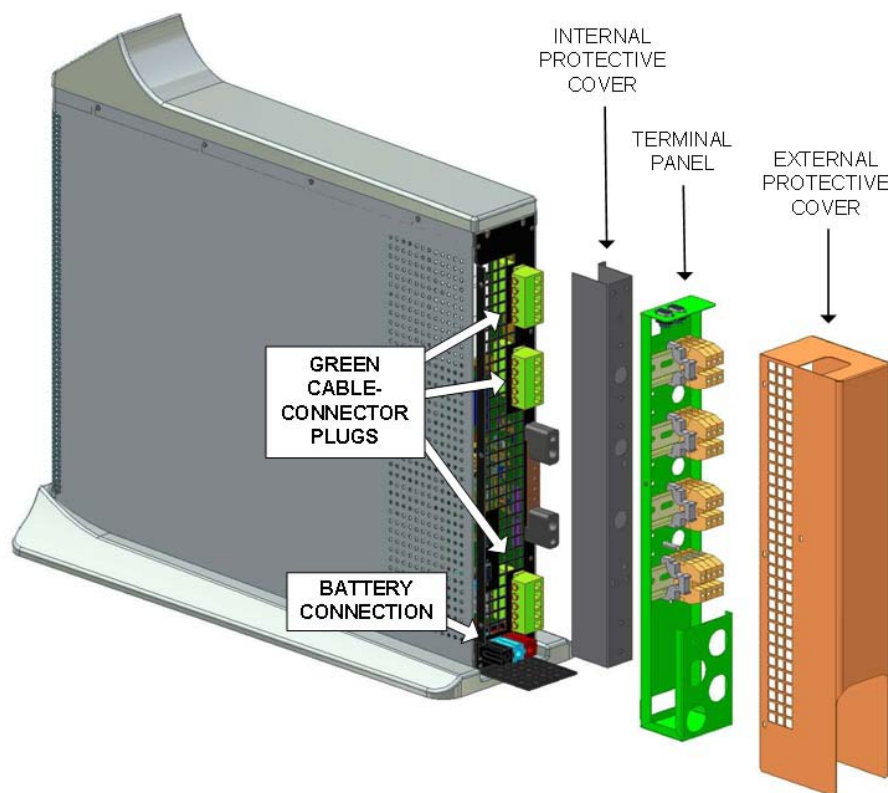

Figure 12: Reconfiguring from 1-1 or 3-1 to 3-3
15. Use a screwdriver to remove the external protective cover from the rear of the UPS (refer to Figure 12).
16. Before continuing, verify with a multimeter that there is no voltage on any of the cables attached to the terminals. (For clarity's sake the electrical cables are not shown in Figure 12.)
19. Remove the terminal assembly from the UPS (refer to Figure 12). The terminal assembly consists of 3 parts: the terminal panel, the black metal internal protective cover behind it, and green connector plugs. The terminal assembly should be removed as a single unit, there is no need to disassemble it into its separate components.